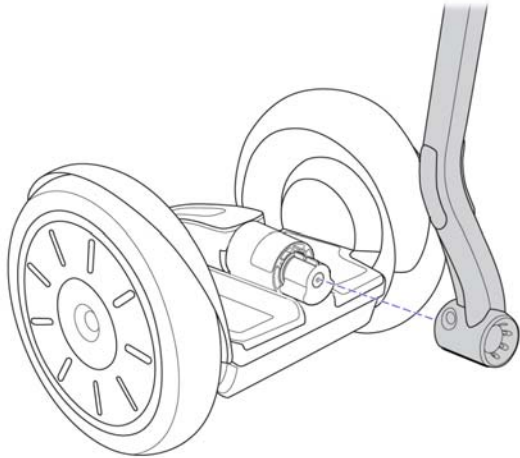

Figure 1-6: Attach LeanSteer Frame to Pivot Assembly
2. Slide LeanSteer frame onto pivot assembly. See Figure 1-6.